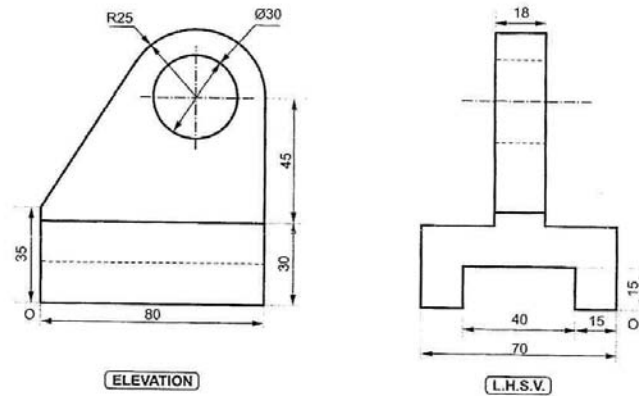

Fig. No. 3
7. Fig. No. 3 shows the FV and LHSV of an object. Draw the isometric view using natural scale. [12]